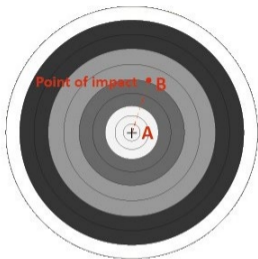

Fig. 13
- 1 **Shoot:** Fire a shot at the center of the target (A) and ensure that the point of impact(B) is clearly visible on the screen as shown in Fig. 13.